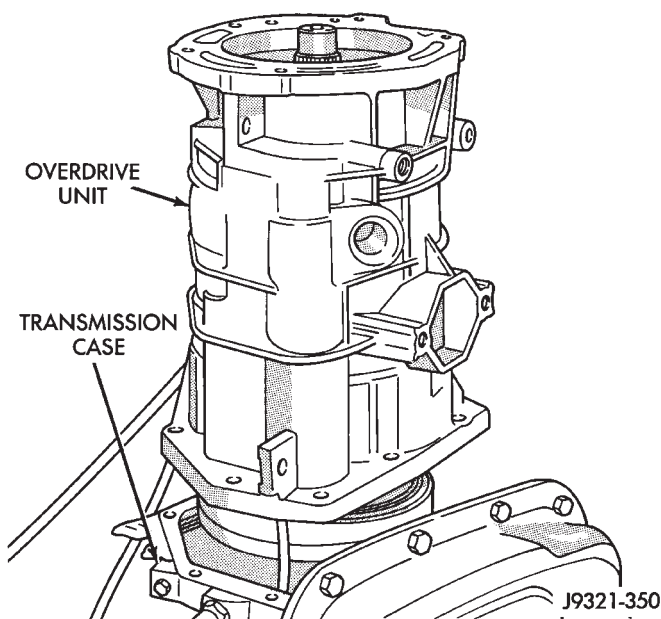

Fig. 124 Overdrive Unit Removal
(8) Lift overdrive unit up and off transmission intermediate shaft (Fig. 124).